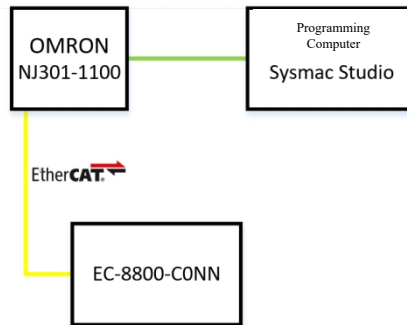

Fig. 5-1-16 Communication Link Diagram
1. See Fig. 5-1-16 for the communication link diagram.